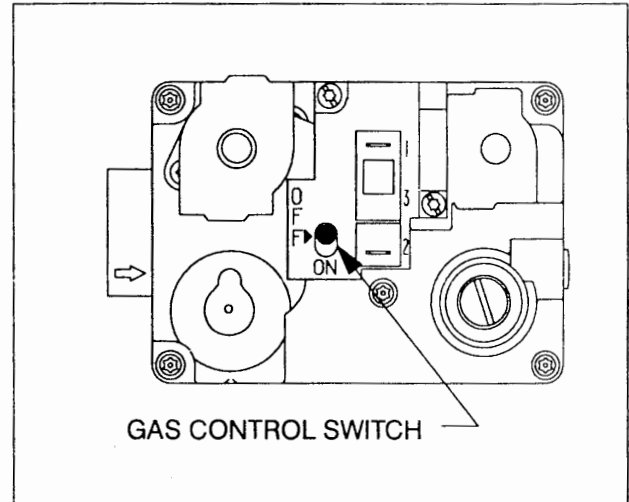

Figure 13. WHITE-RODGERS Gas Valve
- Move gas valve control lever or switch to "OFF". See Figure 13 or 14.
- Wait five (5) minutes to clear out any gas. Then smell for gas, including near the floor. If you smell gas, STOP! Follow "2" in the safety information above.
This furnace is equipped with a gas shutoff lever or switch on the gas valve which can be used to prevent gas from flowing to the furnace. Figure 13 or 14 shows the location of the shutoff lever or switch. To turn off gas to the furnace, move the lever or switch to the "OFF" position.
To adjust pressure regulator, remove cover screw (see location on Figure 13 or 14) on valve. Turn adjusting screw counter-clockwise to decrease pressure, turn clockwise to increase pressure. IN NO CASE SHOULD THE FINAL MANIFOLD PRESSURE VARY MORE THAN $\pm .3$ " W.C. FROM THE SPECIFIED REGULATOR PRESSURE SETTINGS (3.5" FOR NATURAL GAS AND 10" FOR LP (PROPANE GAS)).